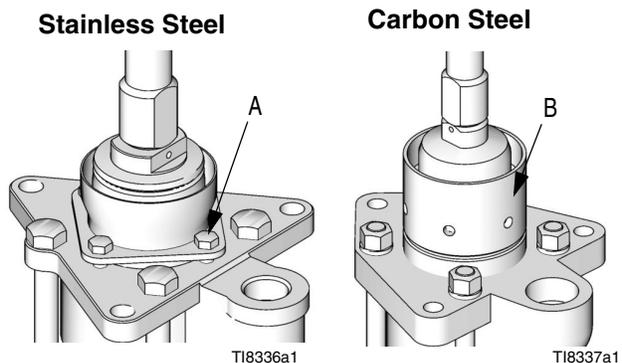

FIG. 2
On stainless steel models, check the tightness of the packing retainer screws (A) weekly. The screws should be tight enough to stop leakage, but no tighter. Always relieve the pressure before adjusting the packing retainer screws. See FIG. 2. On carbon steel models, tighten wet cup (B) using wet cup wrench.